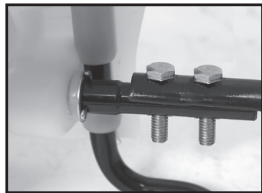

Figure 5
The pump handle can be mounted on either side of the pump shaft (A). To install the pump handle place the handle (C) over the shaft (A) aligning the pump handle holes and shaft holes. Slide the bolts (B) through the aligned holes as shown in figure 3. Tighten nuts (D) to bolts. There are holes in the pump handle to allow for either left (fig.2-4) or right (fig.5) hand mounting.